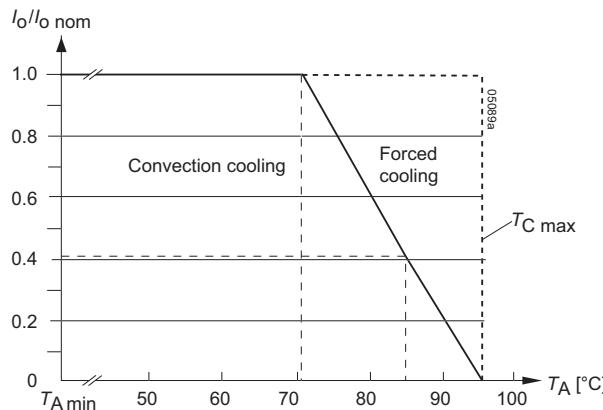

Fig. 8
**Notes:** Sufficient forced cooling or an additional heat sink allows  $T_A$  to be higher than 71 °C (e.g., 85 °C), as long as  $T_{C\max}$  is not exceeded. Details are specified in fig. 8.